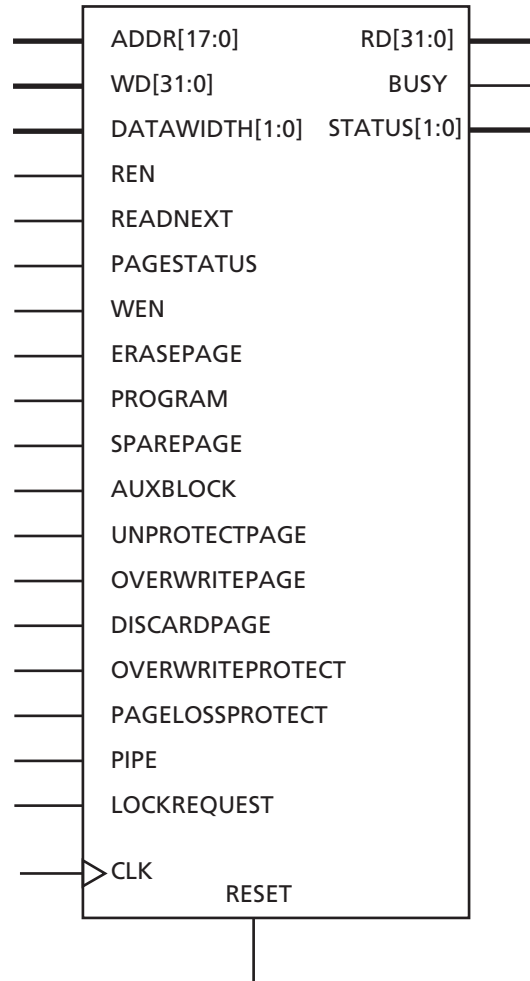

Figure 2-31 • Flash Memory Block
Fusion is the first FPGA that offers a flash memory block (FB). Each FB block stores 2 Mbits of data. The flash memory block macro is illustrated in Figure 2-31. The port pin name and descriptions are detailed on Table 2-19 on page 2-38. All flash memory block signals are active high, except for CLK and active low RESET. All flash memory operations are synchronous to the rising edge of CLK.